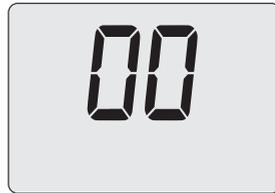

Figure 9.33
- Use 15 or 16 (Figure 9.23) to change the value of parameter A01 (Figure 9.33).